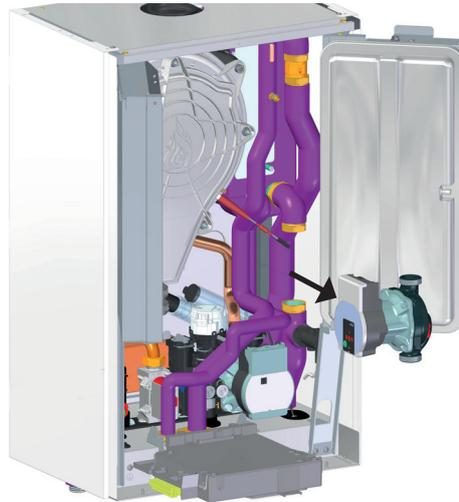

fig. 50 - Replacement/maintenance of the heat pump circulator
- Unscrew the couplings and remove the circulator (fig. 50.)